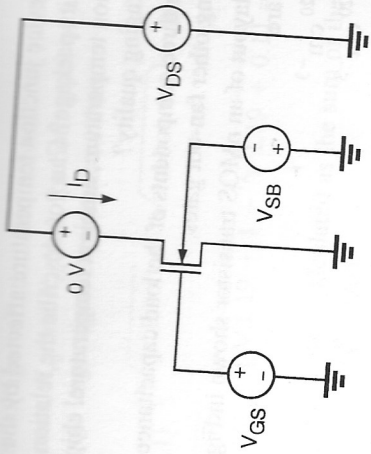

Figure P3.7
- 4.7 A set of $I-V$ characteristics for an nMOS transistor at room temperature is shown for different biasing conditions. Figure P3.7 shows the measurement setup. Using the data, find (a) the threshold voltage V_{T0} and (b) velocity saturation v_{sat} . Some of the parameters are given as $W = 0.6 \mu\text{m}$, $E_c L = 0.4 \text{ V}$, $A = 0.05$, $t_{ox} = 16 \text{ \AA}$, $|2\phi_F| = 1.1 \text{ V}$.